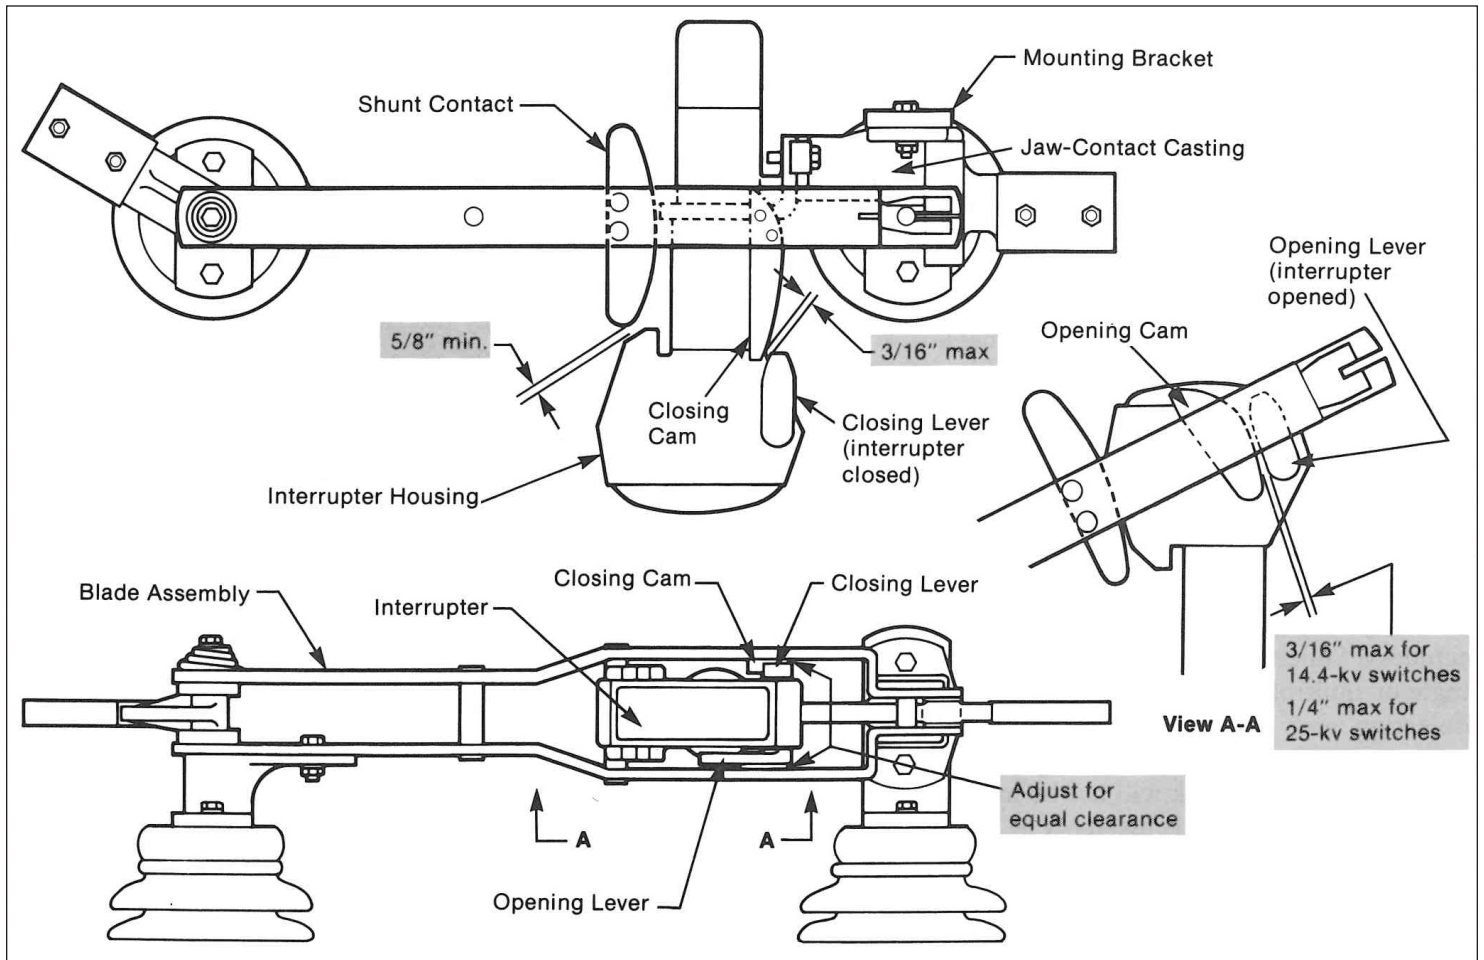

Figure 21. Operation checkpoints.
- (a) The interrupter must lie in a plane parallel to the sweep of the blades, and the blades must pass over the interrupter with equal clearance on both sides. See Figure 21 on page 19.
- (b) As the blade moves in the closing direction, the clearance between the blade opening cam and the interrupter opening lever must be within the limit shown in Figure 21, View A-A on page 19.
- (c) In the fully **Closed** position, clearance between the blade-closing cam and the interrupter-closing lever must be within the limit shown in Figure 21 on page 19. Also, the clearance between the blade-shunt contact and the interrupter housing must be as shown in Figure 21 on page 19.